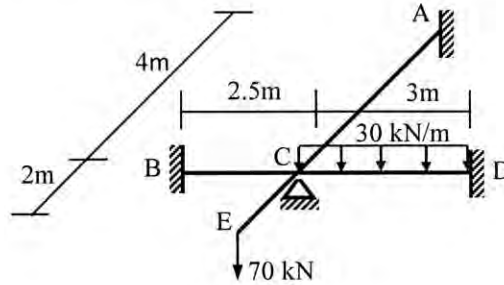

Figure 2
2. Calculate the joint rotations at C of the grid loaded as shown in **Figure 2** if joint C Settled 2.5 mm [Given: $EI = 16,500 \text{ kN-m}^2$, $GJ = 12,500 \text{ kN-m}^2$].